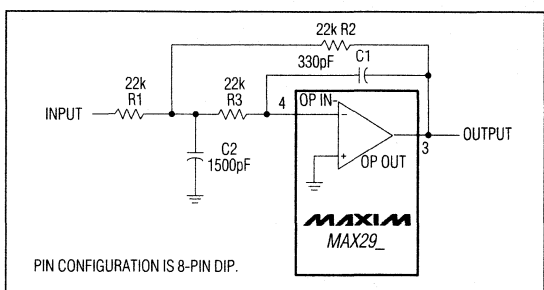

Figure 4. Uncommitted Op Amp Configured as a 2nd-Order Butterworth Lowpass Filter ( $F_o = 10\text{kHz}$ )
The uncommitted op amp has its noninverting input connected to the GND pin, and can be used to build a 1st- or 2nd-order continuous-time lowpass filter. This filter is intended for anti-aliasing applications preceding the switched-capacitor filter, but it can be used as a post-filter to reduce clock noise. Figure 4 shows one of many filters that can be built with this op amp: a 2nd-order Butterworth filter with a 10kHz corner frequency and an input impedance greater than 22kΩ. Table 1 gives alternative component values for different corner frequencies of the same Butterworth filter.
Table 1. Component Values for Figure 4's Filter
As the passband ripple of the MAX293/MAX294/MAX297 elliptic filters is of the order of  $\pm 0.1$ dB, it is normally appropriate to keep the passband errors of any anti-aliasing filter at or below this level. This is achieved by choosing the corner frequency of Figure 4's Butterworth filter ( $f_{cB}$ ) to be higher than the corner frequency of the elliptic switched-capacitor filter ( $f_{cE}$ ) by a factor of 2.5 or more. A factor of 5 or more is recommended to avoid problems with component tolerances, i.e.  $f_{cB} > (5)f_{cE}$ .